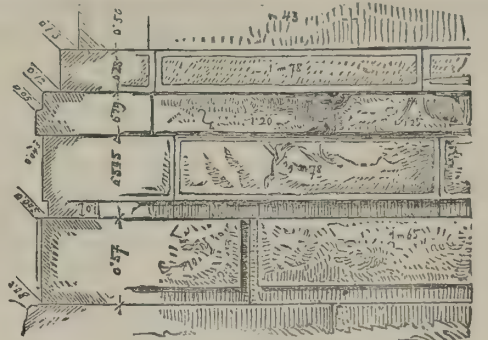
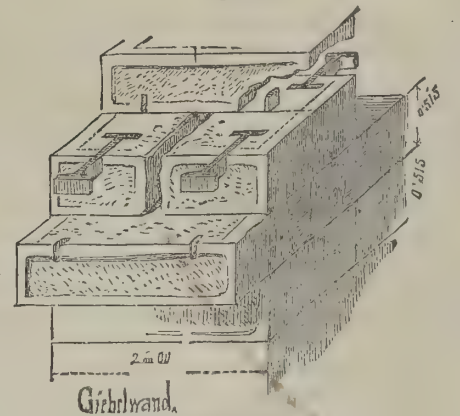

Fig. 2.
Fig. 3.
5. *Walls.*—These were always built of large blocks of stone with dressed beds and joints, the face being sometimes left rough in terrace walls (Fig. 2), sometimes having draughted margins, but always smoothly cut in important buildings. Great care was taken to obtain fine and close joints, mortar never being used, nor was the interior of the wall ever composed of a concrete of stone spalls and mortar, as in modern building. Cyclopean masonry was rarely used, and notched stones are not common, the rectangular ashlar being most frequently employed. The wall was two-faced, the courses of the sides not always corresponding, and often merely resting against each other or connected by metallic cramps, though through bond stones are sometimes found (Fig. 3). No separate and proper foundation was provided, but the wall stood on the stone
columns were set under the centers of each alternate triglyph, or rarely under each third triglyph. This made the intercolumniation next the angle less than the others, thus further increasing the apparent stability of the corner. But the position of each column was rigidly fixed, once the diameter of the shaft and number of columns had been decided. The distance between centers of columns was generally 2.6 diameters. (See Fig. 2.)